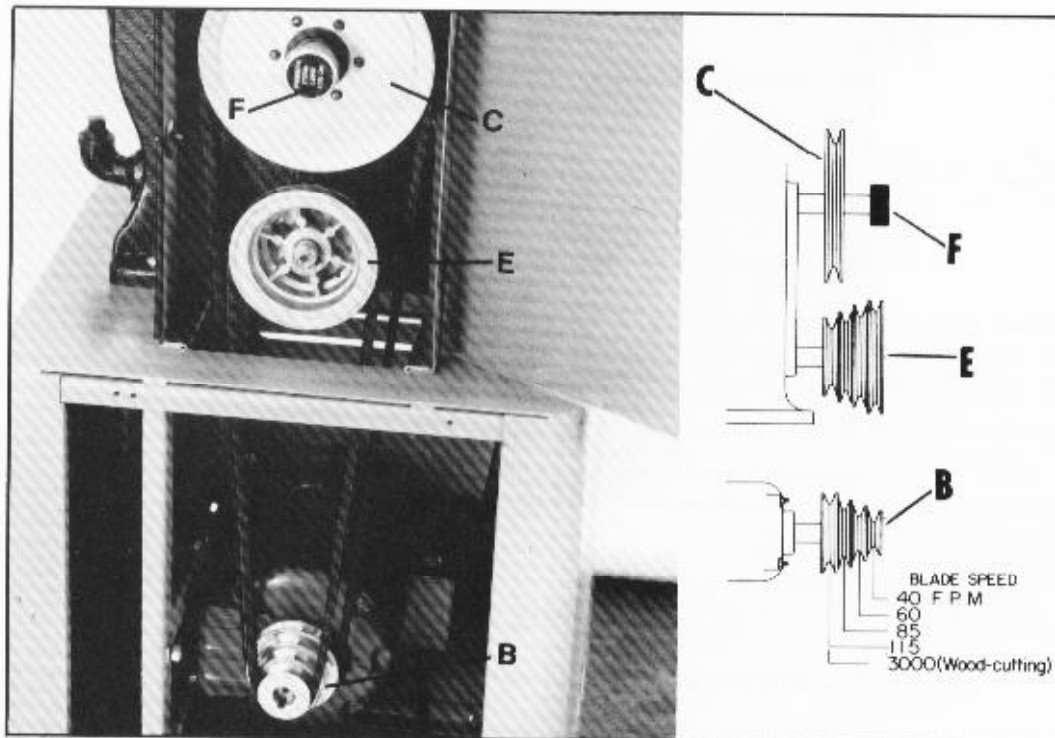

Fig. 24
With the longest belt on the inside groove of the motor pulley (B) and on the driven pulley (C), as shown in Fig. 24, and the small belt in one of the remaining three grooves of the motor pulley and the corresponding groove of the gear box pulley (E), speeds of 40, 60, 85, and 3000 FPM are readily available. To obtain speeds of 40, 60, and 85 FPM, the shifter knob (F) Fig. 24, must be pushed all the way in, as previously explained, and the small belt positioned on one of the three outside grooves of the motor pulley (B) and the gear box pulley (E).
To obtain a blade speed of 3000 FPM, simply pull out the shifter knob (F) Fig. 24.
The blade speed of 115 FPM is obtained by pushing in the shifter knob (F) Fig. 24, removing the long belt from the pulleys (B) and (E) and placing the small belt on the inside groove of the motor pulley (B) and the inside groove of the gear box pulley (E).